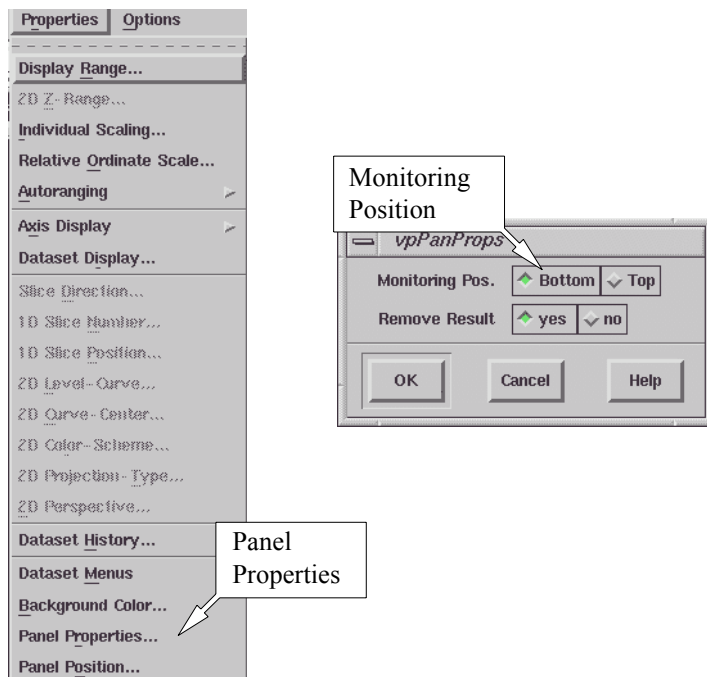

Figure 15-3 Selecting the monitoring panel position.
2. **Select the monitoring panel position.** First make sure the spectrometer is on and booted. You can choose either to put the monitoring panel above or below the Viewport. Click the Properties button in the menu bar, and then Panel Properties. A dialog window will appear. Click either Top or Bottom and then OK. (See Figure 15-3.)